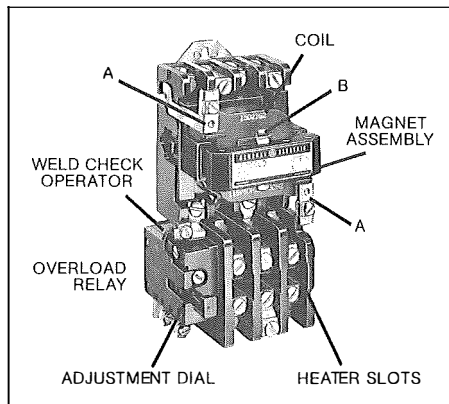

Figure 1. Typical 300-Line magnetic starter.
2. Press against coil while pulling up slightly on coil retainers (A—Figure 1) and move retainers away from coil.
4. Withdraw spring clip (B—Figure 1) and remove armature from movable arm.
**Note:** For starters with one or more normally closed contacts, perform steps 1 and 2 shown under *Coil Replacement*. Withdraw spring clip (B—Figure 1) and remove armature, coil, and magnet from device. Remove return spring from center of movable arm. Remove molded cover and stationary contacts before lifting movable arm from device.
5. The ultimate tripping current of the installed relay heater can be adjusted  $\pm 10\%$  by using the adjustment dial, shown in Figure 1.